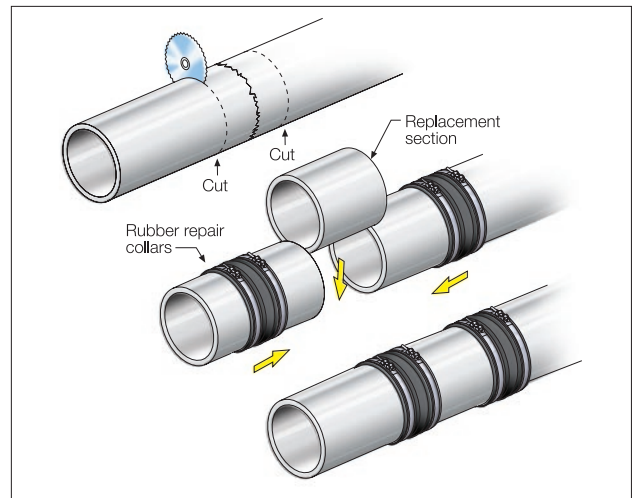

Figure 58 - Repair section
3. Slide and position the rubber repair collar across the joints and secure with the stainless steel straps, see Figure 58.